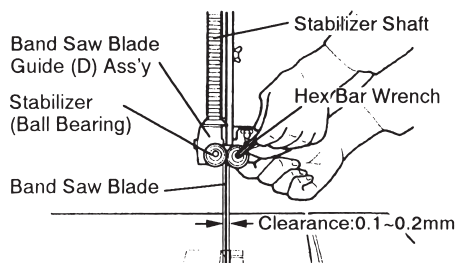

Fig. 31 - c
- (3) Tighten the narrow width blade properly, and adjust the clearance between the band saw blade and the stabilizer (Ball bearings) to (0.1~0.2mm). (See Fig. 31 - c)